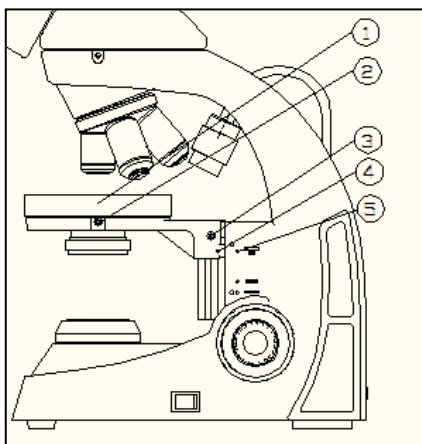

Fig 22
Put the round stage ① into the holder, use a hexagonal wrench lock the screw ②. Adjust coarse focusing wheel to lift the holder to the top position, loose the screw ③ to move the holder, and then lock the screw ③ when the mark ④ and ⑤ are horizontally aligned. (See Fig.22)